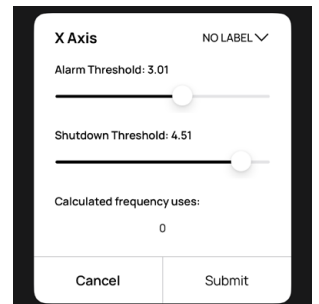

Figure 5
- **Settings** button: Tap to open the data logging settings popup. See Figure 5.
To set alarm and shutdown thresholds (see Figure 5):